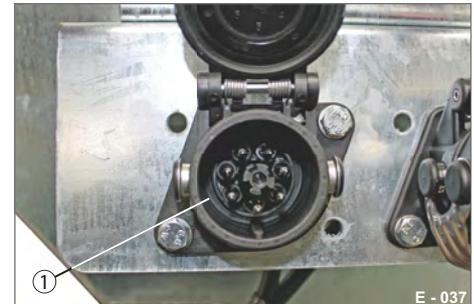
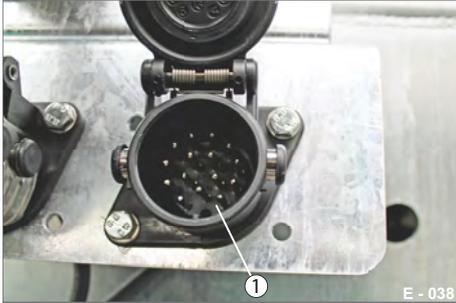

Fig. 16 EBS/ABS socket lower left
Fig. 17 Electrical system plug lower right
- ▶ Plug the required 12 V or 24 V plug in the lower multi-voltage socket (Fig. 16/1 & Fig. 17/1) on the console.